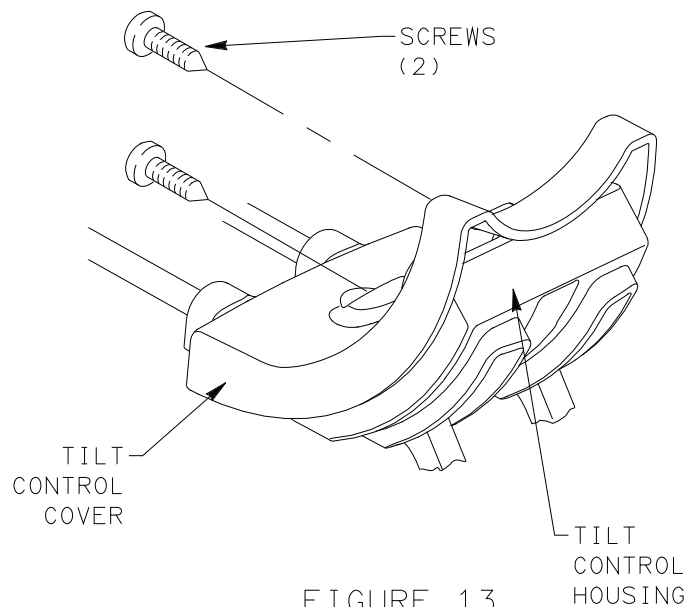

FIGURE 13
9. IF CHAIR IS MANUFACTURED WITH BASIC TILT OPTION, PROCEED TO STEP 14. USING #2 PHILLIPS HEAD SCREWDRIVER, REMOVE AND SET ASIDE (2) SCREWS FASTENING TILT CONTROL COVER TO TILT CONTROL HOUSING. SET ASIDE TILT CONTROL COVER. SEE FIGURE 13.
13. INSTALL TILT CONTROL COVER TO TILT CONTROL HOUSING AND SECURE WITH (2) SCREWS. SEE FIGURE 13.